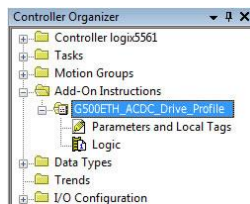

Figure 40: AC/DC Drive Profile Add-On Instruction
- 2) Right click on “Add-On Instructions” in the controller organizer view and select “Import Add-On Instruction”. Browse and import the AC/DC drive profile add-on instruction. Refer to Figure 40.